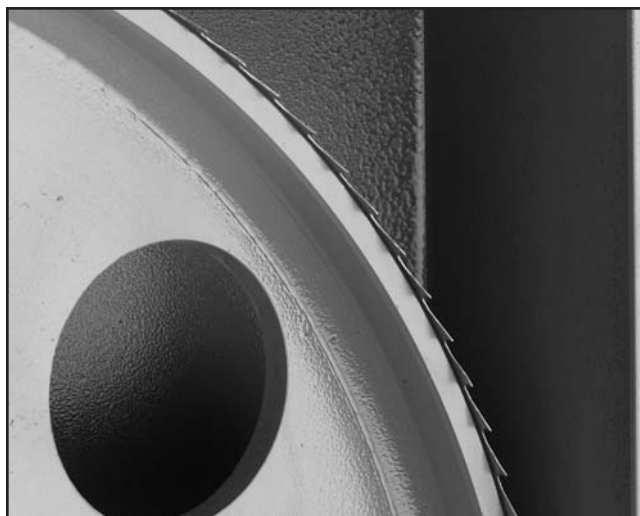

Figure 10. Bottom of teeth gullets protruding $\frac{1}{16}$ " from the edge of the upper wheel.
2. Open the wheel cover doors and check the position of the blade on the wheels. The teeth of the blade should be over the edge of each wheel. Ideally, the bottom of the teeth gullets should ride approximately $\frac{1}{16}$ " off the edge of the wheels as shown in **Figure 10**.